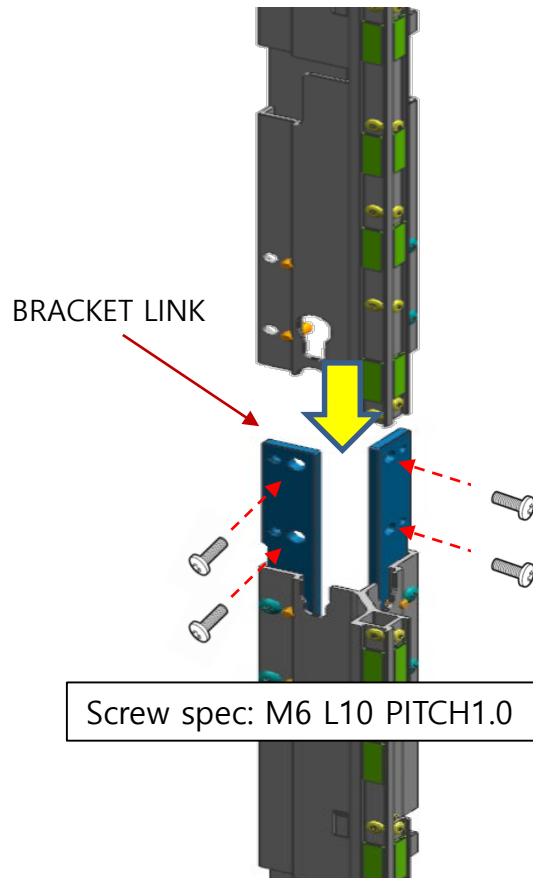

Fig.1
① Assemble the ASSY FRAME V (Level 2) 2SET using the BRACKET LINK as of 4X4. (Fig.1)